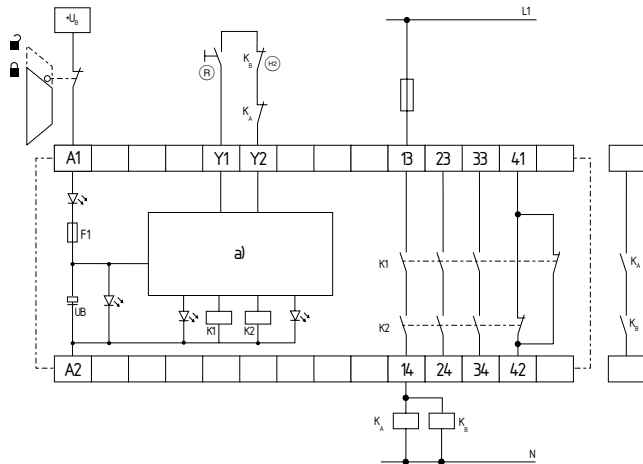

Fig. 2
One-channel control, shown for a guard door monitor with one positive break contact and external reset button (R) (see Fig. 2)
- (R) = Feedback circuit